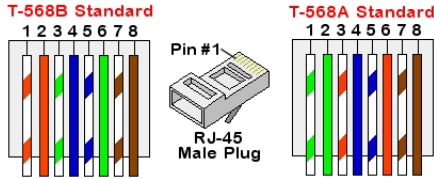

Figure 27: Standard cable wiring
- c. Insert the eight wires into an RJ45 connector, as described in Figure 27
8. For the switch/router side, use a pre-terminated cable or use a crimper to prepare an RJ45 communication connector: Insert the eight wires into the RJ45 connector in the same order as above (Figure 27).